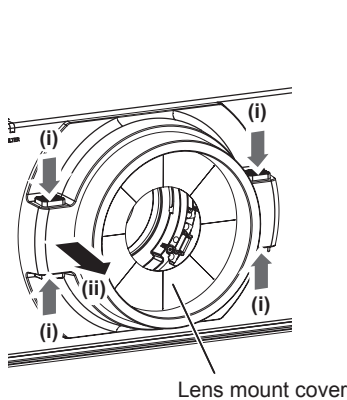

Fig. 1
- 1) Remove the lens mount cover. (Fig. 1)**
1) Remove the lens mount cover. (Fig. 1)